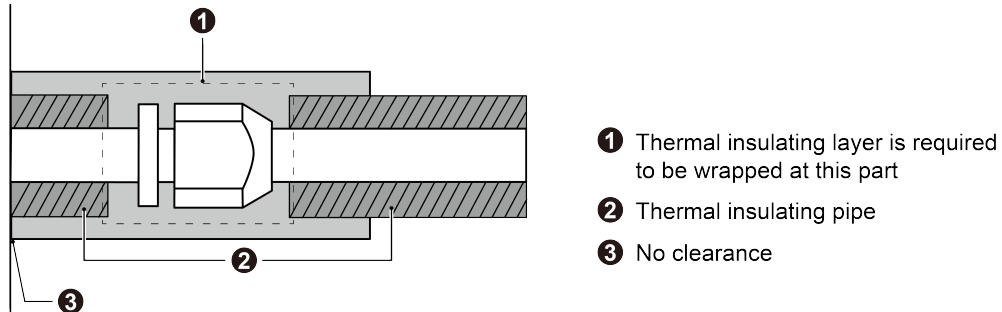

Fig.4.3.6
- 3) Joints at indoor and outdoor units should be wrapped with thermal insulator and no clearance between pipe and wall. Show as Fig.4.3.6.